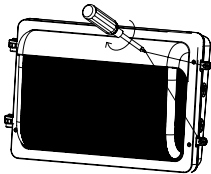

Figure 8
8. Secure the upper cover of the fixture with screws. (Figure 8)